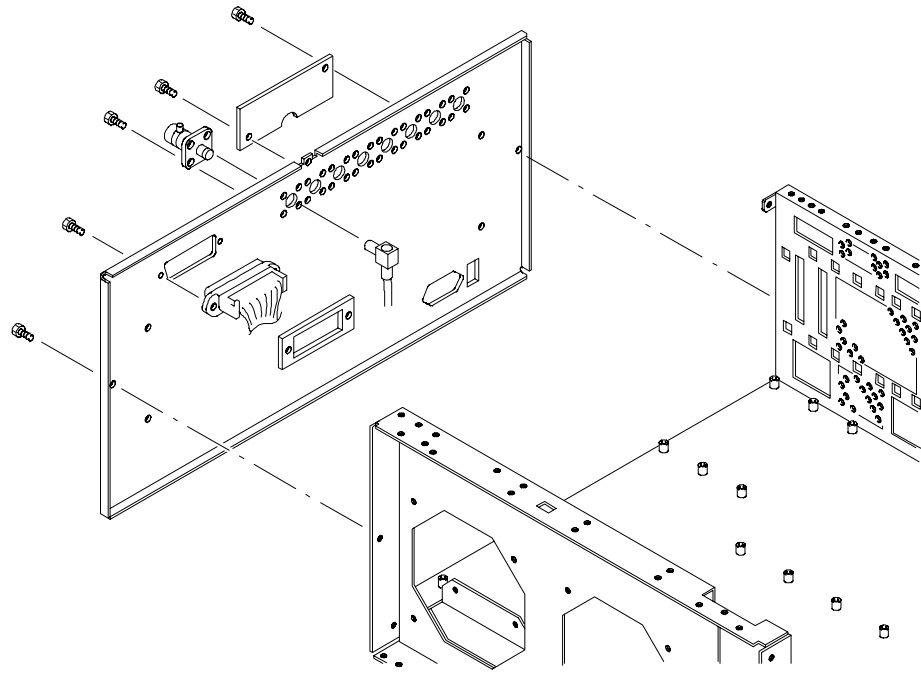

Figure 6-31: Rear panel modules
3. *Remove the SMB-BNC connector:* See Figure 6-31.
4. *Remove the GPIB connector:* See Figure 6-31.